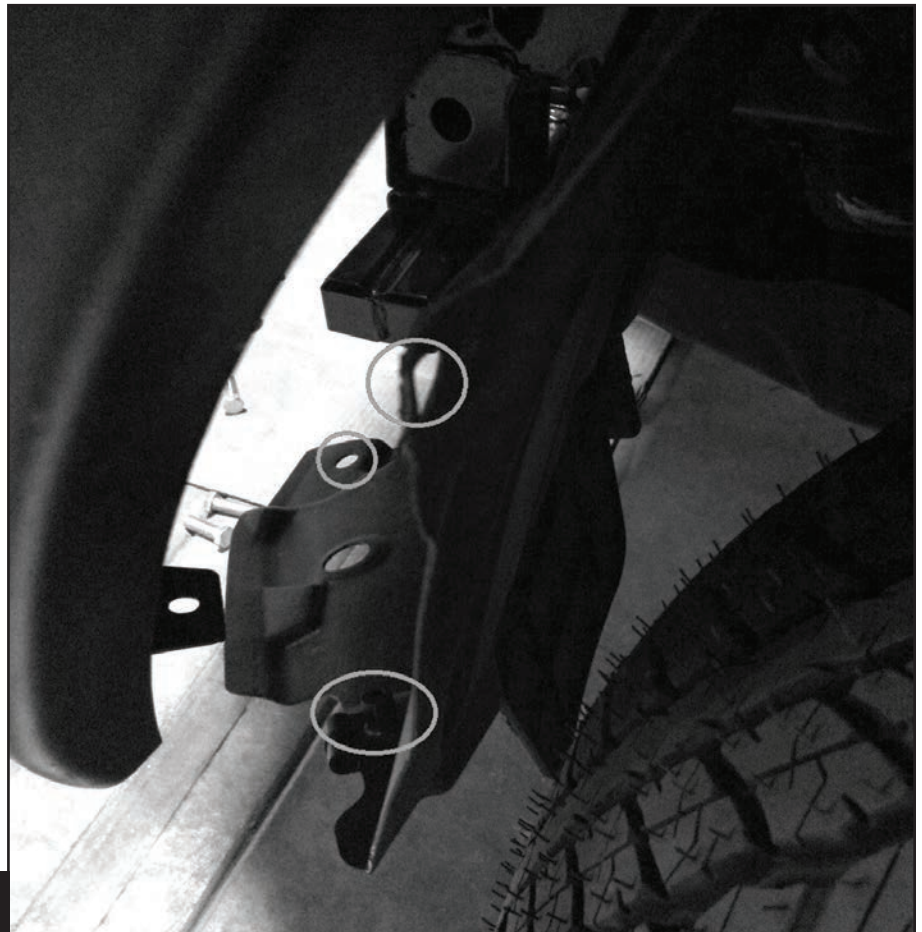

Fig 5
5. Remove and discard (4) screws and (2) push clips securing inner fender to bumper cover (**Fig 5**).